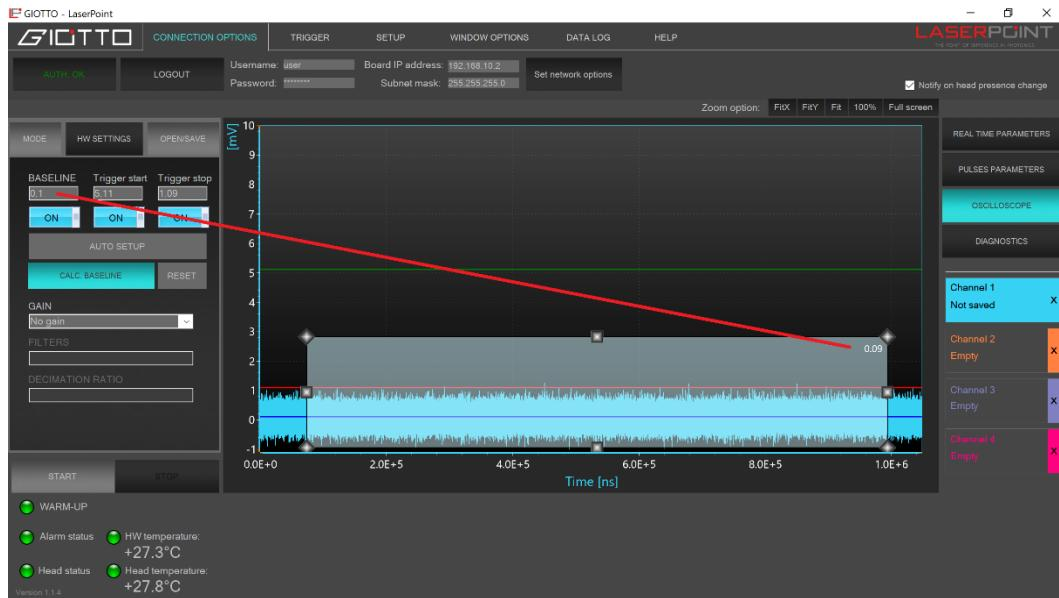

Figure 12
5. The automatic calculated optimal Baseline value is set in the corresponding box at the upper left side (**fig.12**)